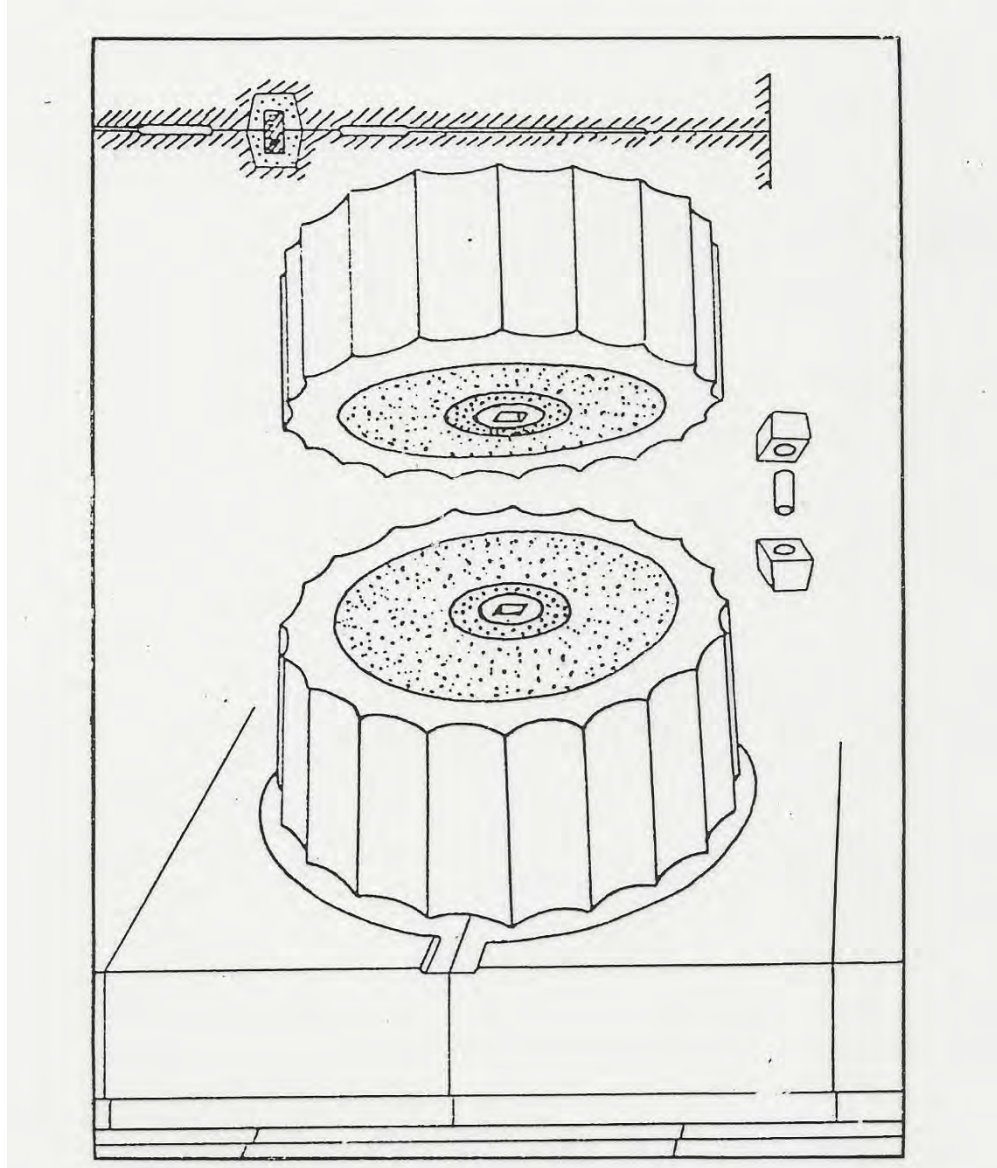

Fig.38. Column drums connected with iron poles (Penrose, in [5])
- Shear poles, corrosion protected, (Fig. 38)
- Dowels of column drums (Fig. 38)